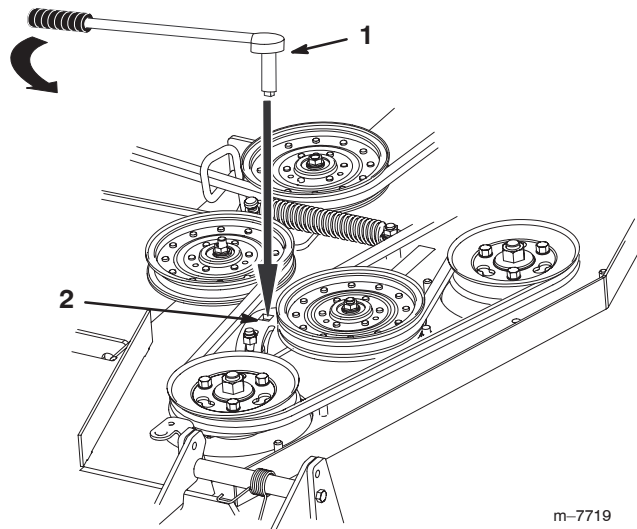

Figure 58
7. Insert a ratchet with a short extension or a breaker bar into the square hole in the fixed idler arm (Fig. 58).